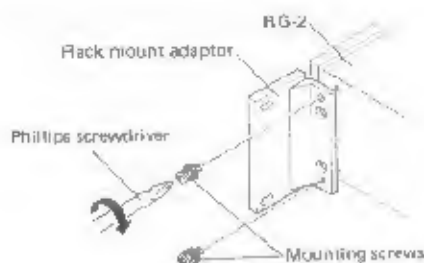

Fig. 8
2. Secure the rack mount adaptors onto the side panels with the accessory mounting screws (M4x10). (Fig. 8)